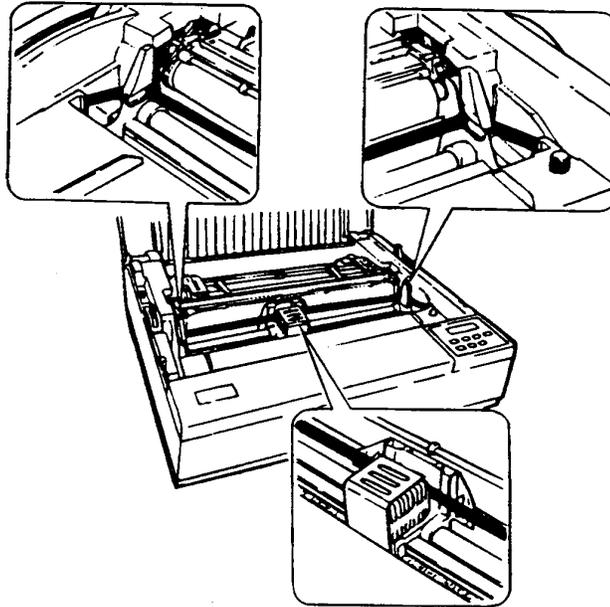

Figure 5-2. Model 577 ROP Ribbon Threading
- 9.3. Holding the cartridge in position as shown in Figure 5-2, hook the left side of the ribbon around the left ribbon guide and the right side around the right ribbon guide (as shown in the top two close-up views in Figure 5-2).
- 9.4. Thread the ribbon into the striking area between the print head and the shiny vertical plate next to the platen (as shown in the lower close-up view in Figure 5-2).
- 9.7. The ribbon guides at the immediate left and right sides of the print head have vertical rectangular notches the width of the ribbon. Verify that the ribbon now lies correctly in these guide notches. See the lower close-up view in Figure 5-2.